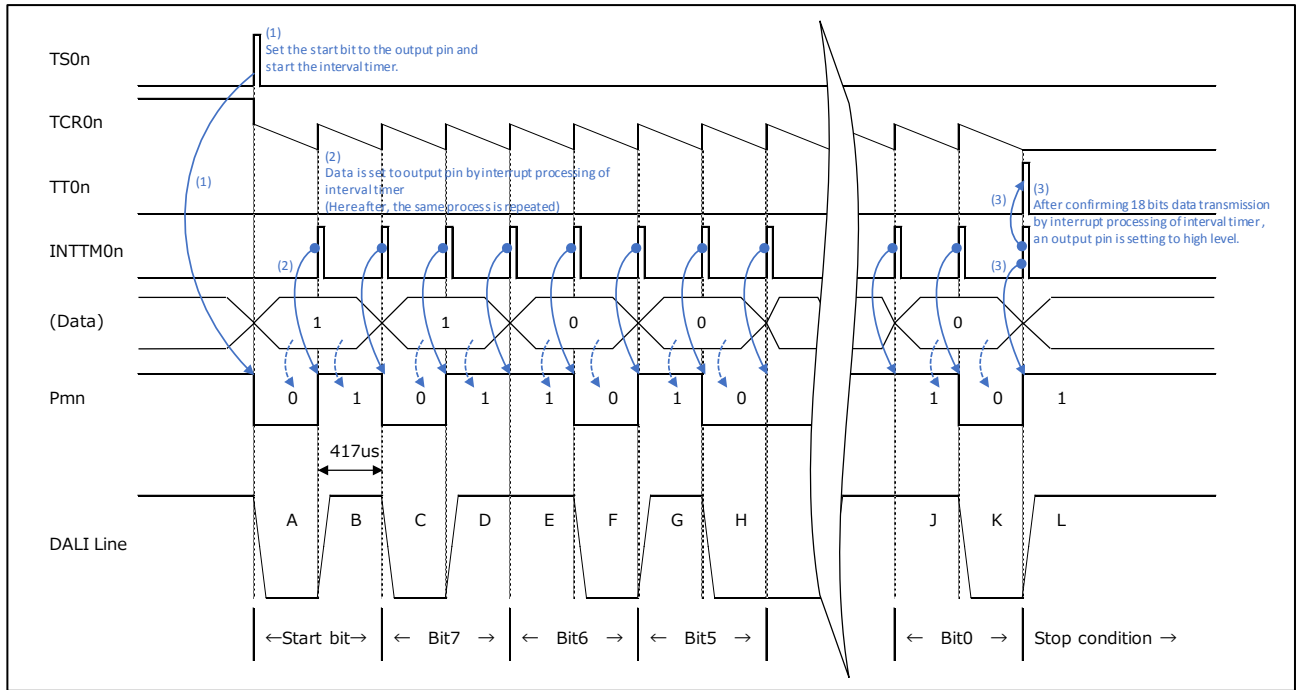

Figure 4-15 Example of Backward Frame transmission timing
Figure 4-15 shows the operation of the timer to be used, the timing to output to the pin, and the waveform that flows on the DALI bus. The blue arrow in the figure indicates the operation of the program (CPU). By setting the transmit data to the P10 pin, the same waveform is output on the DALI Line.
- (1) When receiving a data transmission request, set the Half bit of the Start bit to the I/O pin and start the interval timer of the Transmitter bit timing. ("A" in "Figure 4-15 Example of Backward Frame transmission timing")
- (2) After that, set the data stored in the transmit data buffer at the interrupt timing of the interval timer to the output terminal in order from the most significant bit. ("B" to "K" in "Figure 4-15 Example of Backward Frame transmission timing")
- (3) At the end of all output, stop the interval timer of Transmitter bit timing, set the high level signal to the output terminal, and output the stop condition. ("L" in "Figure 4-15 Example of Backward Frame transmission timing")